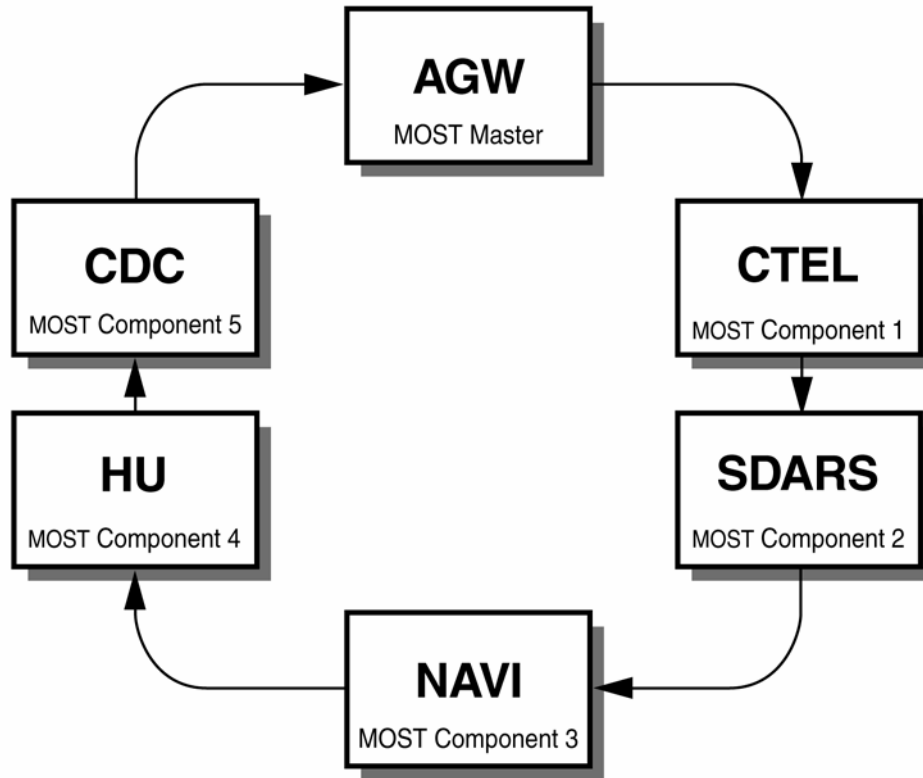

Figure 30
2. Set the MOST ring configuration to match Figure 30 via path:
**Control units > Information and communication > Audio, video, navigation and telematics > AGW – Audio Gateway > Retrofitting of MOST components > F2: Restart of optical ring > F2: Actual configuration > Verify that the configuration of the MOST components matches Figure 30 > F2: To continue > F3: Yes, to write the current actual configuration to MOST master > F2: Erase fault memory**
**Note:** The MOST ring configuration in Figure 30 is an example of a configuration including all components. Some installations will not include all the components shown in the example. If a component is not present, connect the preceding component to the component following the one not present.
**Match the MOST ring configuration to Figure 30.**
**Failure to match the MOST ring configuration to Figure 30 will result in erroneous system operation and/or intermittent malfunctioning of some or all components.**
**DO NOT alter the configuration in Figure 30 to match the vehicle configuration.**